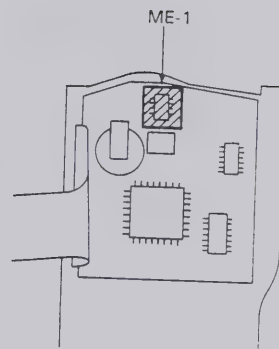

Fig. 4
- 6 Attach the ME-1 to the transceiver, as shown in fig.4.